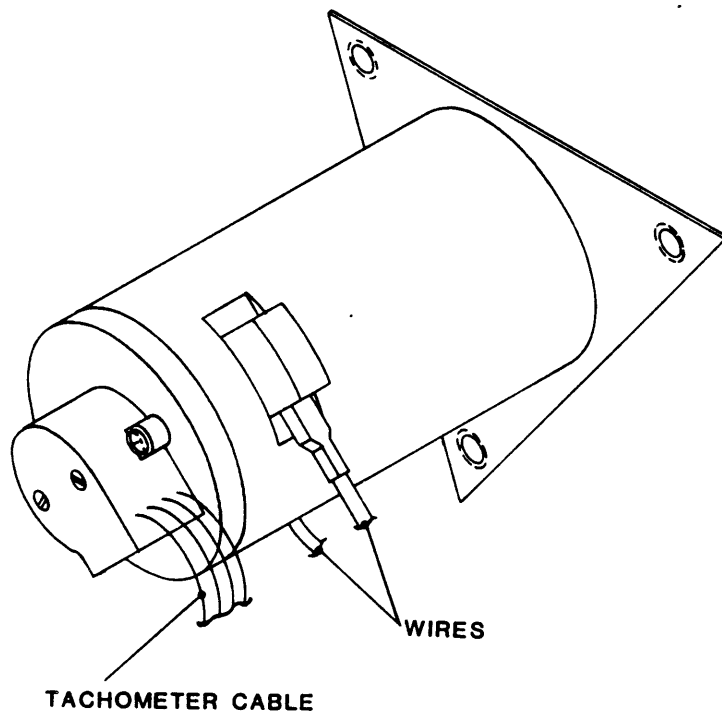

Figure 4-21 Capstan Motor Assembly
4.3.24 CAPSTAN MOTOR ASSEMBLY (Figure 4-21)